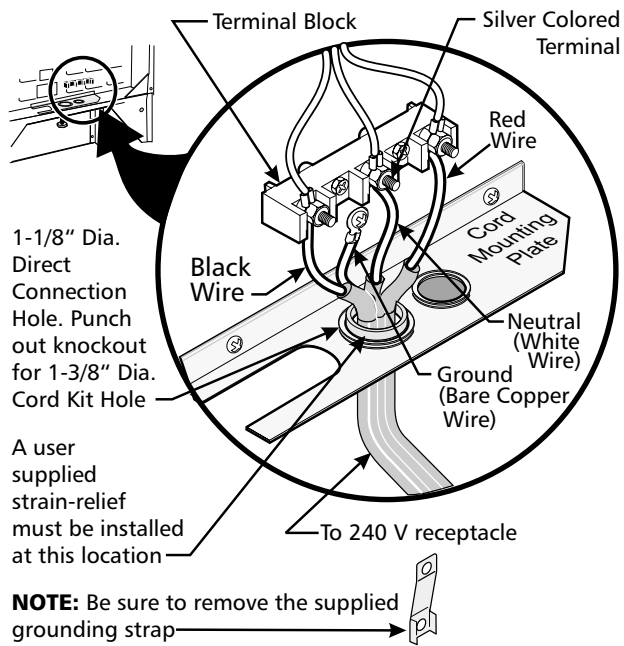

Figure 4
For mobile home installation or areas where local codes do not permit grounding through neutral, a 4 conductor power supply cord kit rated at 125/250 volts minimum, 40 amperes minimum and marked for use with ranges should be used (see Figure 4).
4. Connect the ground wire (green) of the copper power supply cord to the frame of the appliance with the ground screw, using the hole in the frame where ground strap was removed (see figure 4).
6. Replace the 3 nuts on terminal block (see figure 4).
If the appliance is connected directly to the circuit breaker, fuse box or junction box, use flexible, armored or non metallic sheathed copper cable (with grounding wire). Supply a U.L. listed strain-relief at each end of the cable. At the appliance end, the cable goes through the Direct Connection Hole (see figure 4) on the Cord Mounting Plate. Wire sizes (**copper wire only**) and connections must conform to the rating of the appliance.